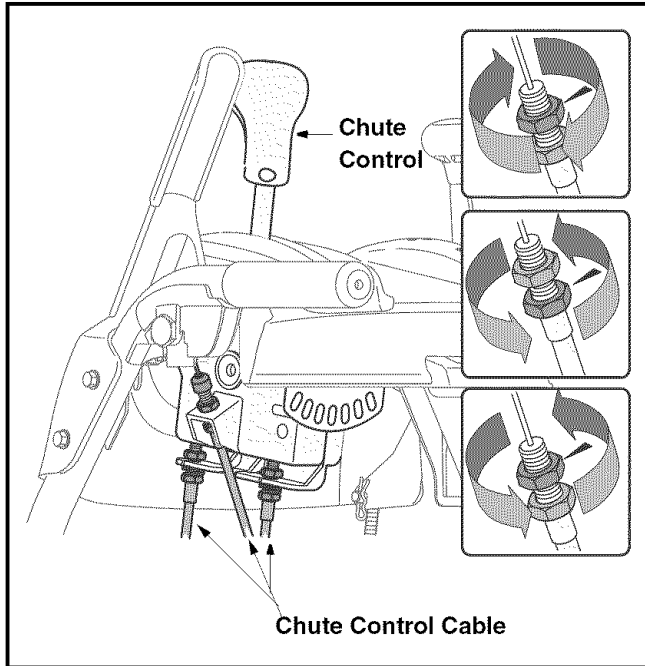

Figure 30
2. Adjust equally on both sides by working on both cables. See Figure 30.